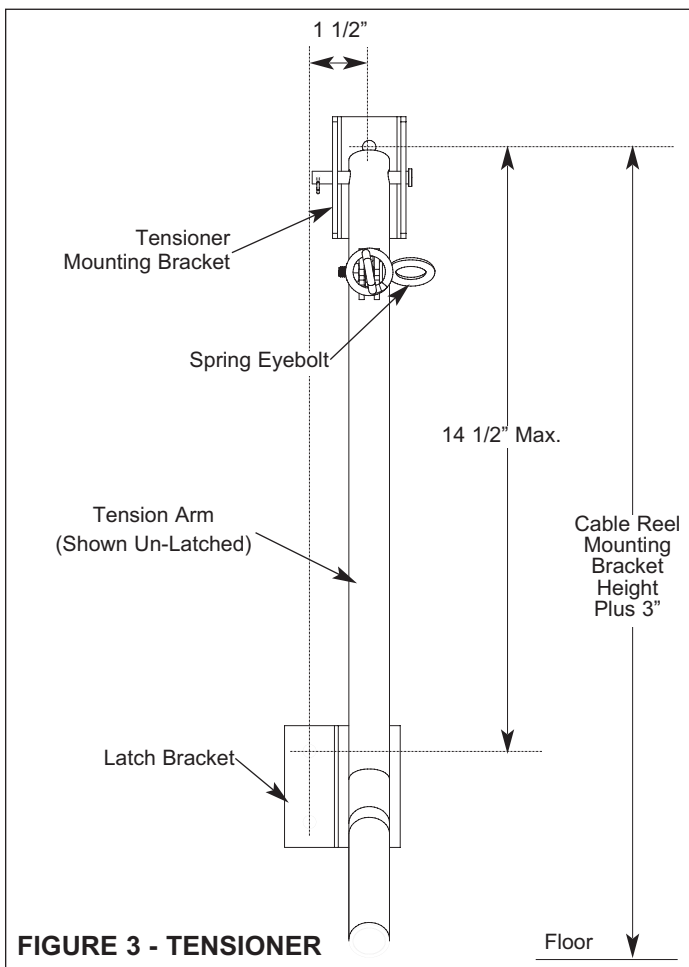

FIGURE 3 - TENSIONER
1. Locate tension mounting bracket to wall, *Figures 3 & 4*.